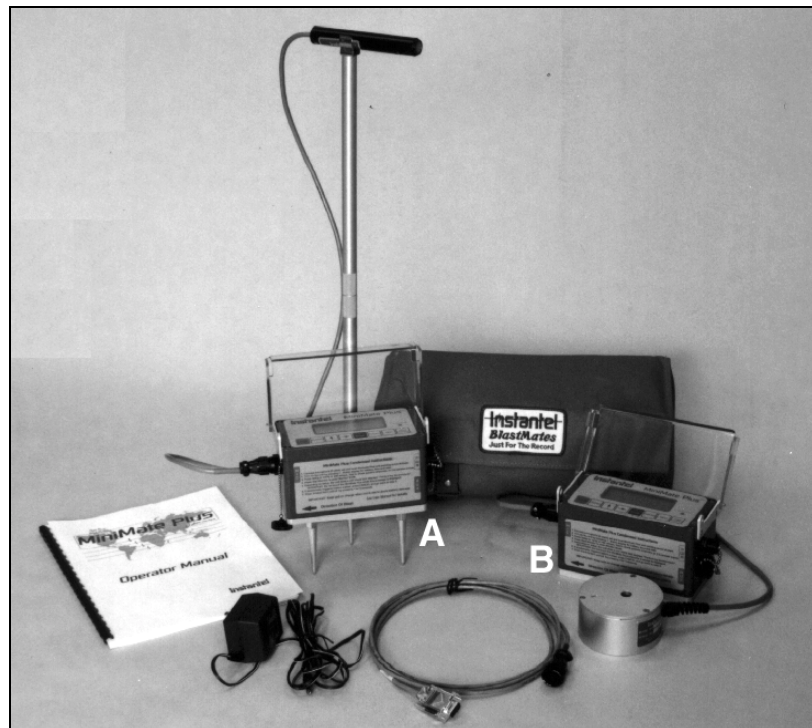

Figure 1.1 MiniMate Plus Models and Accessories.
The MiniMate Plus series of monitors includes two models based on the number of recording channels, as shown in Figure 1.1. The standard model offers four recording channels and a built-in standard transducer (A). The second model offers eight recording channels with your choice of external transducers and microphones (B). All models offer the level of performance and ease-of-use you expect from Instantel monitors.